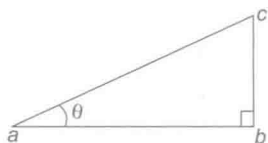

Figure 1.5
i.e. in the triangle of Figure 1.5,
Problem 7. In Figure 1.5, if $ab = 5.1$ m and $bc = 6.7$ m, determine the length of the hypotenuse, ac .
In problems 1 to 5, refer to Figure 1.5.